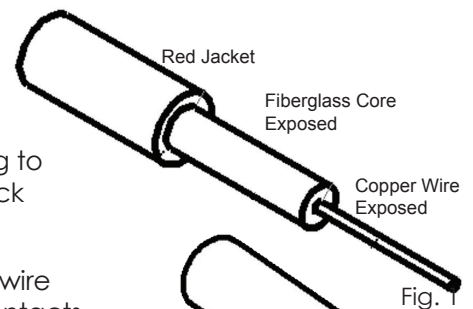

Fig. 1
2. Once jacket is removed, use knife or hacksaw again to score a mark around fiberglass core to expose wire (see table below). Use sharp knife to carefully strip away fiberglass core closest to rod end to expose copper wire. Be careful not to damage wire. A portion of rod closest to jacket will remain intact (Fig.1)